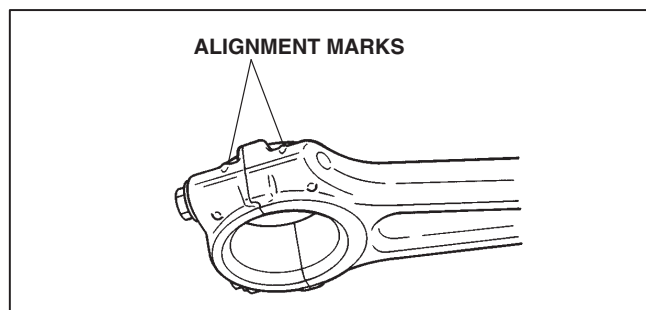

FIGURE 6-6.
3. Match the alignment marks on the connecting rod cap to connecting rod and clinch together. (Figure 6-6). Tighten the connecting rod bolts to the specified torque.